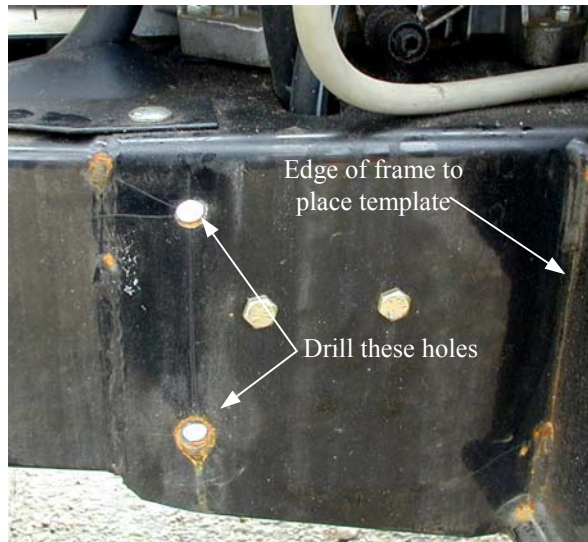

Figure 1
2. Affix the full size paper drill template marked "RIGHT HAND FRAME DRILL TEMPLATE", included with these instructions, to the right side of the mower frame as shown in Figure 1. Follow the guidelines noted on the template for proper location. Use a center punch to mark the two hole locations on the frame. Drill a smaller pilot hole then follow with a 7/16" drill. **Use caution so as not damage the hydraulic system, hydraulic filter or filter mount.**